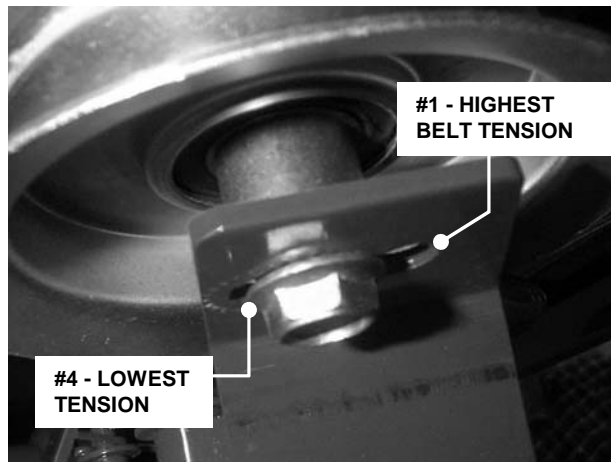

FIGURE 4.5
6. If step 5 did not produce the correct spring extension, the idler pulley will require repositioning. The idler arm has a series of 4 holes. See Figure 4.5. The #1 position produces the highest belt tension, #4 the lowest. Remove the idler pulley – noting the mounting hole location prior to removing bolt.